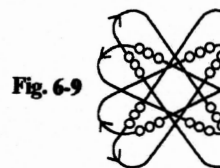

Fig. 6-9
9. Pseudo-Genji braid (Nise Genji-uchi) (Fig. 6-9)